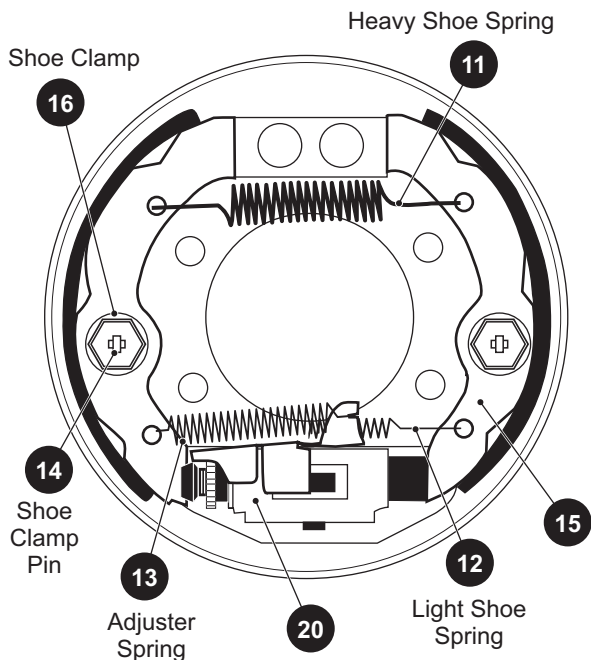

Figure 16 Brake Shoes and Springs
3. Remove the three brake shoe springs (11, 12, 13). Note the location of the heavy spring and the adjuster spring (Ref. Figure 16).
4. Hold the shoe clamp pin (14) and compress and rotate the shoe clamp (16) 90° to release it from the shoe clamp pin.
5. Remove the brake shoes (15), adjuster (20) and remaining components.
Always replace both brake shoes on both wheels as a set. Install the shoes as indicated and install the shoe clamp (5) over the shoe clamp pin (4) and rotate 90° to lock them in place (Ref. Figure 16).
11. Install new brake shoe (11, 12) and adjuster (13) springs. The hooked end of the adjuster spring is inserted through the front of the front shoe as shown(Ref. Figure 16).